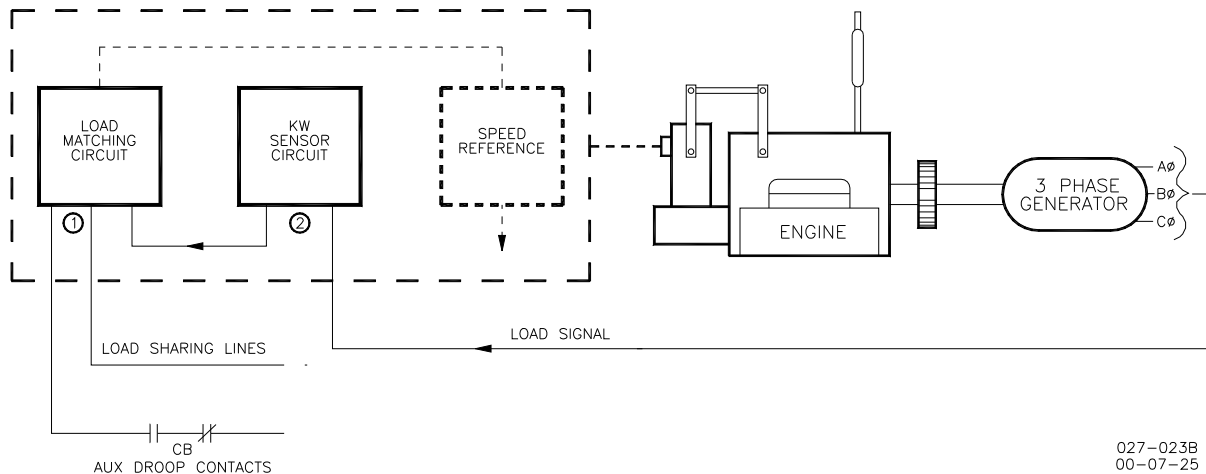

Figure 6-4. Paralleling System
There are two basic methods used for paralleling: droop, where speed decreases with load increase, and isochronous, where speed remains constant with load increase. The paralleling system shown in Figure 6-4 consists of a load matching circuit (1), and kW sensor circuitry (2).